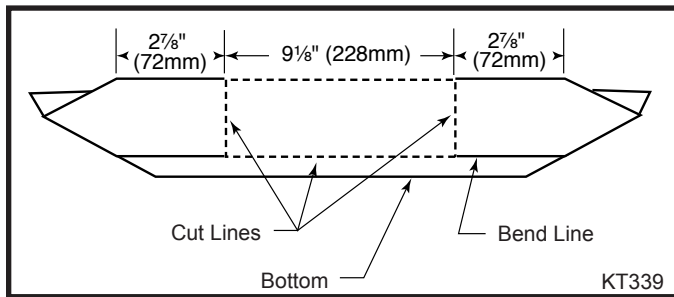

Fig. 3 Rear view of bottom heat shield.
1. Measure in from the left and right corners of the rear shield flange $2\frac{7}{8}$ " (72 mm) and mark these two spots as shown in Figure 3.